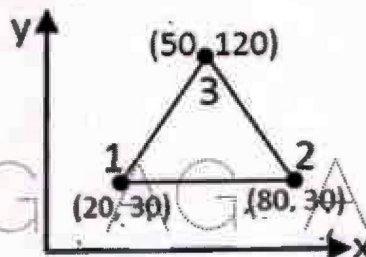

Figure 2
5. Determine the stiffness matrix for the constant strain triangular (CST) element shown in the figure 2. The coordinates are given in units of millimetres. Assume plane stress conditions. Take  $E = 200 \text{ GPa}$ ; Poisson's ratio ( $\nu$ ) = 0.3; Thickness ( $t$ ) = 10 mm. [15]